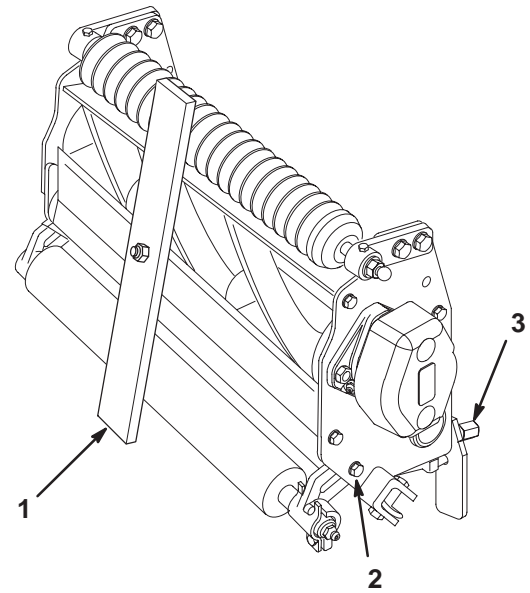

Figure 5
2. Turn the cutting unit over (90°) and rest it on the rear roller and top rear tabs. Loosen the locknuts on the bolts retaining the rear roller brackets (Fig. 5).
3. On the gauge bar (Part No. 13-8199), set the head of the screw to the desired height of cut (Fig. 5). This measurement is from the bar face to the underside of the screw head.
2. Place the bar across the front and rear rollers and adjust the height-of-cut knob (Fig. 5) until the underside of the screw head engages the bedknife cutting edge.